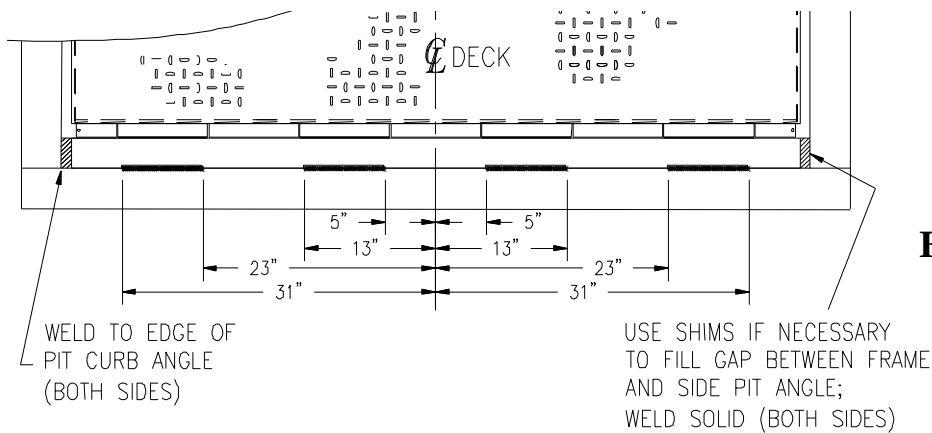

Figure 7
12. Weld the rear hinge angle to the rear and side pit curb angle as shown in **Figure 7**. Ensure the dock leveler power has been disconnected and that the welder is properly grounded to the dock leveler frame.